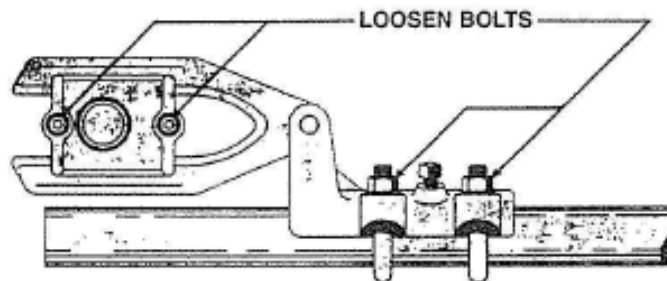

Figure 10: Top View of Adjustable Arm Assembly
- Loosen Adjustable Arm and Clevis Bolts - **Figure 10**.